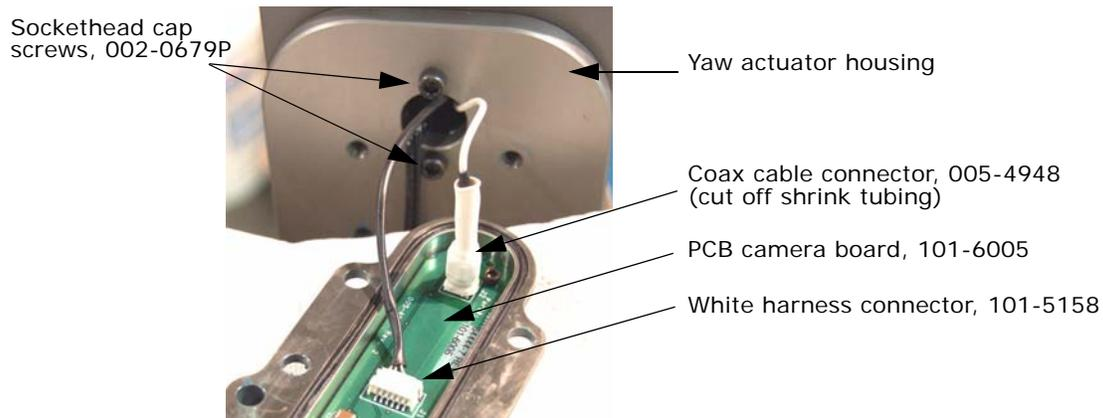

Figure 13
- 3.** Cut off the shrink tubing from the coax cable connector and disconnect from the PCB camera board. See Figure 13.
- 5.** Disconnect the white harness cable connector from the PCB camera mount. See Figure 13.
- Check the two sockethead cap screws, 002-0679P, (Figure 13) and confirm they are torqued to 7.3 Nm (65 lbf/in).
3. Apply o-ring lube and install o-ring, 004-0139, to the channel in the mounting face of the camera housing. See Figure 13.
6. Connect the white harness connector and coax cable connector to the connectors in the camera housing as shown in Figure 13. Heat-shrink the tubing over the coax connectors.
7. Before securing the camera to the yaw plate, check that the two sockethead cap screws (Figure 13) are torqued to 7.3 Nm (65 lbf/in).